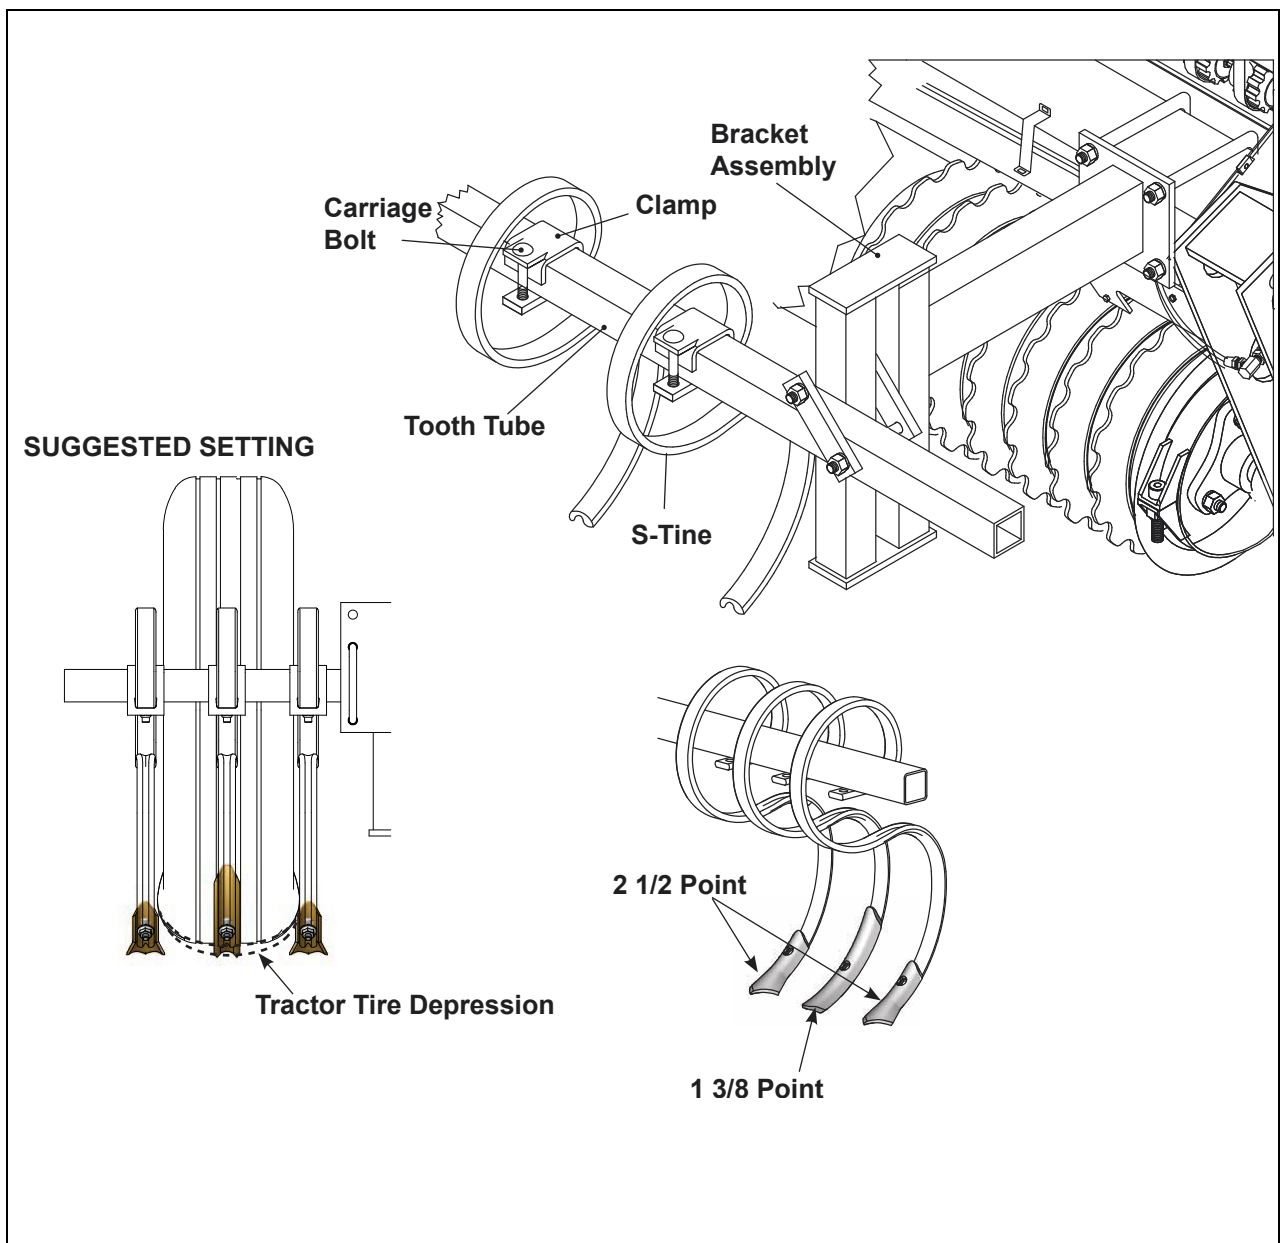

Figure 2-26: S-Tine Setup (Optional)
1. Attach brackets to the frame with u-bolts (1/2" x 4-1/2" centers x 7-1/2" deep), lock washers, and nuts. Note that the long ends of the brackets are downward. The brackets should be about 53" from center of implement. See Figure 2-26.